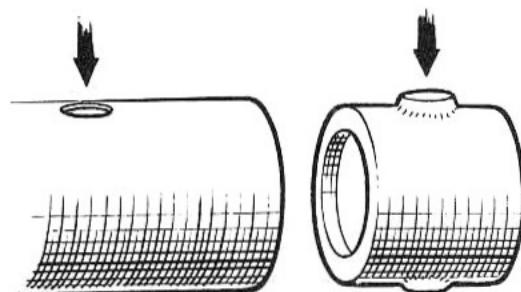

Fig. 17 Arrows indicate outer column bush locations
2. Fit the bush assemblies to the outer column so that their locating lugs engage with the holes provided (Fig. 17) and the metal reinforced end of each bush is towards the lower end of the column (Fig. 18).